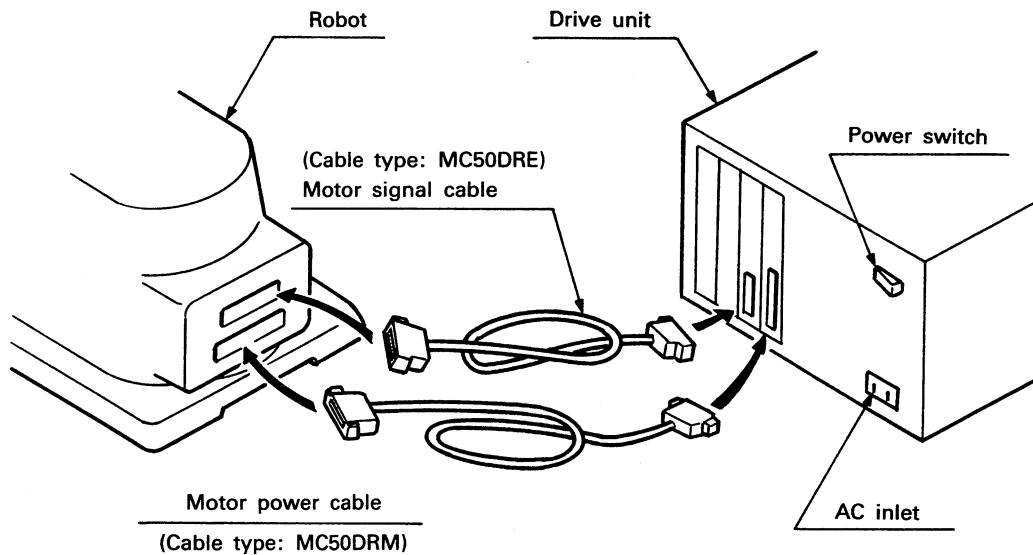

Fig. 2.1.7 Cable Connections
- (1) Connect cables between the robot and drive unit as shown in Fig. 2.1.7.
- (2) Before connecting any cable, check that the power switch on the drive unit rear panel is off.
- (3) Plug the power cord into the AC inlet in the drive unit rear panel.
- (4) Connect the motor signal cable and motor power cable to the corresponding connectors of the robot and drive unit.
- (5) The two cables have no specific orientation for connection. Either end can be hooked up to either unit.
- (6) When fixing any connector, raise the spring latches on both of its sides to secure the connector.
- (7) Route the cables with special care. Do not pull hard or bend the cables to protect the cables and connectors.